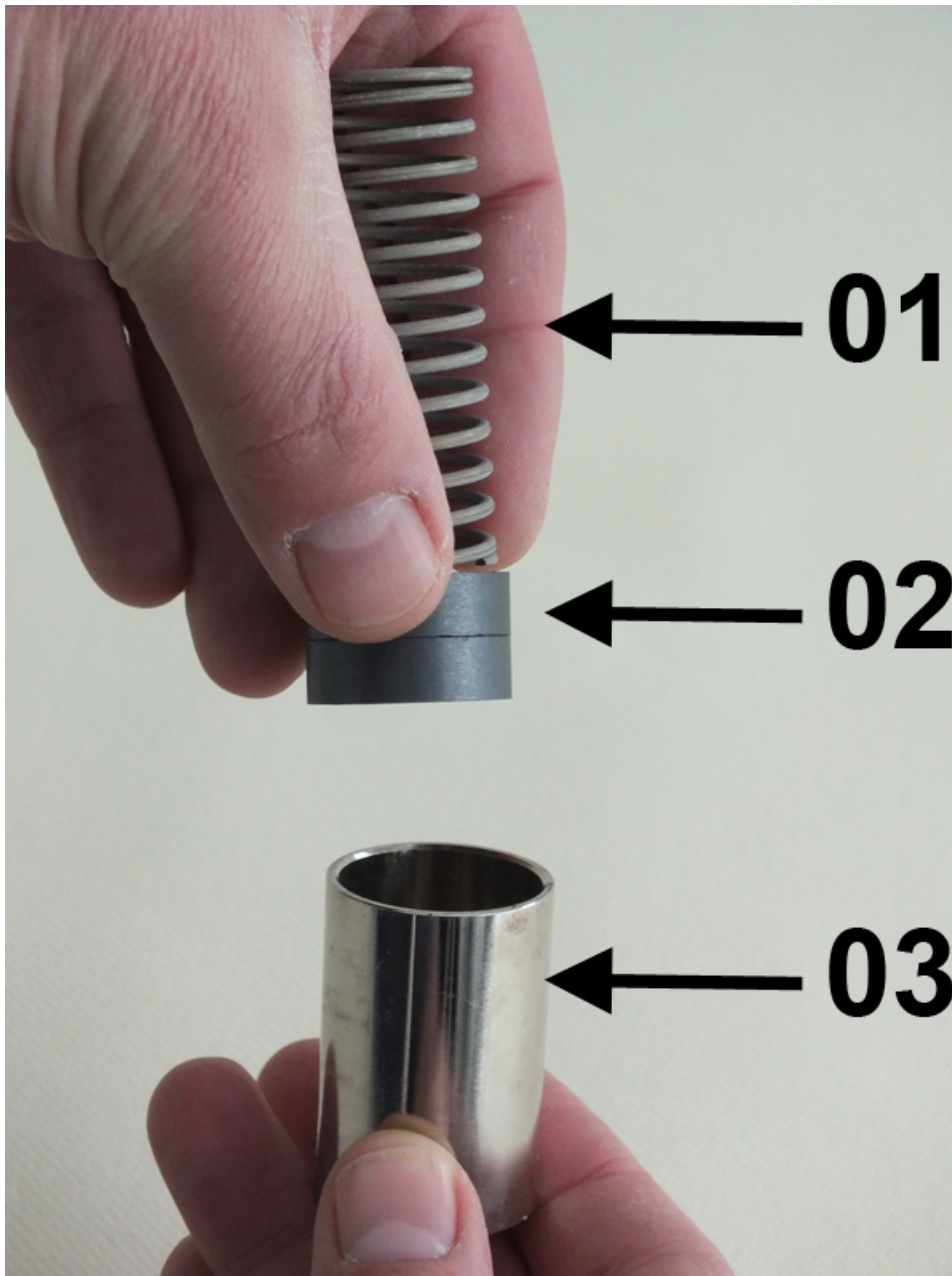

Fig. 49: inner parts
4. ➤ Insert the spring (Fig. 49/01) and magnets (Fig. 49/02) into the float (Fig. 49/03), ensuring correct polarity (north pole toward device outlet).